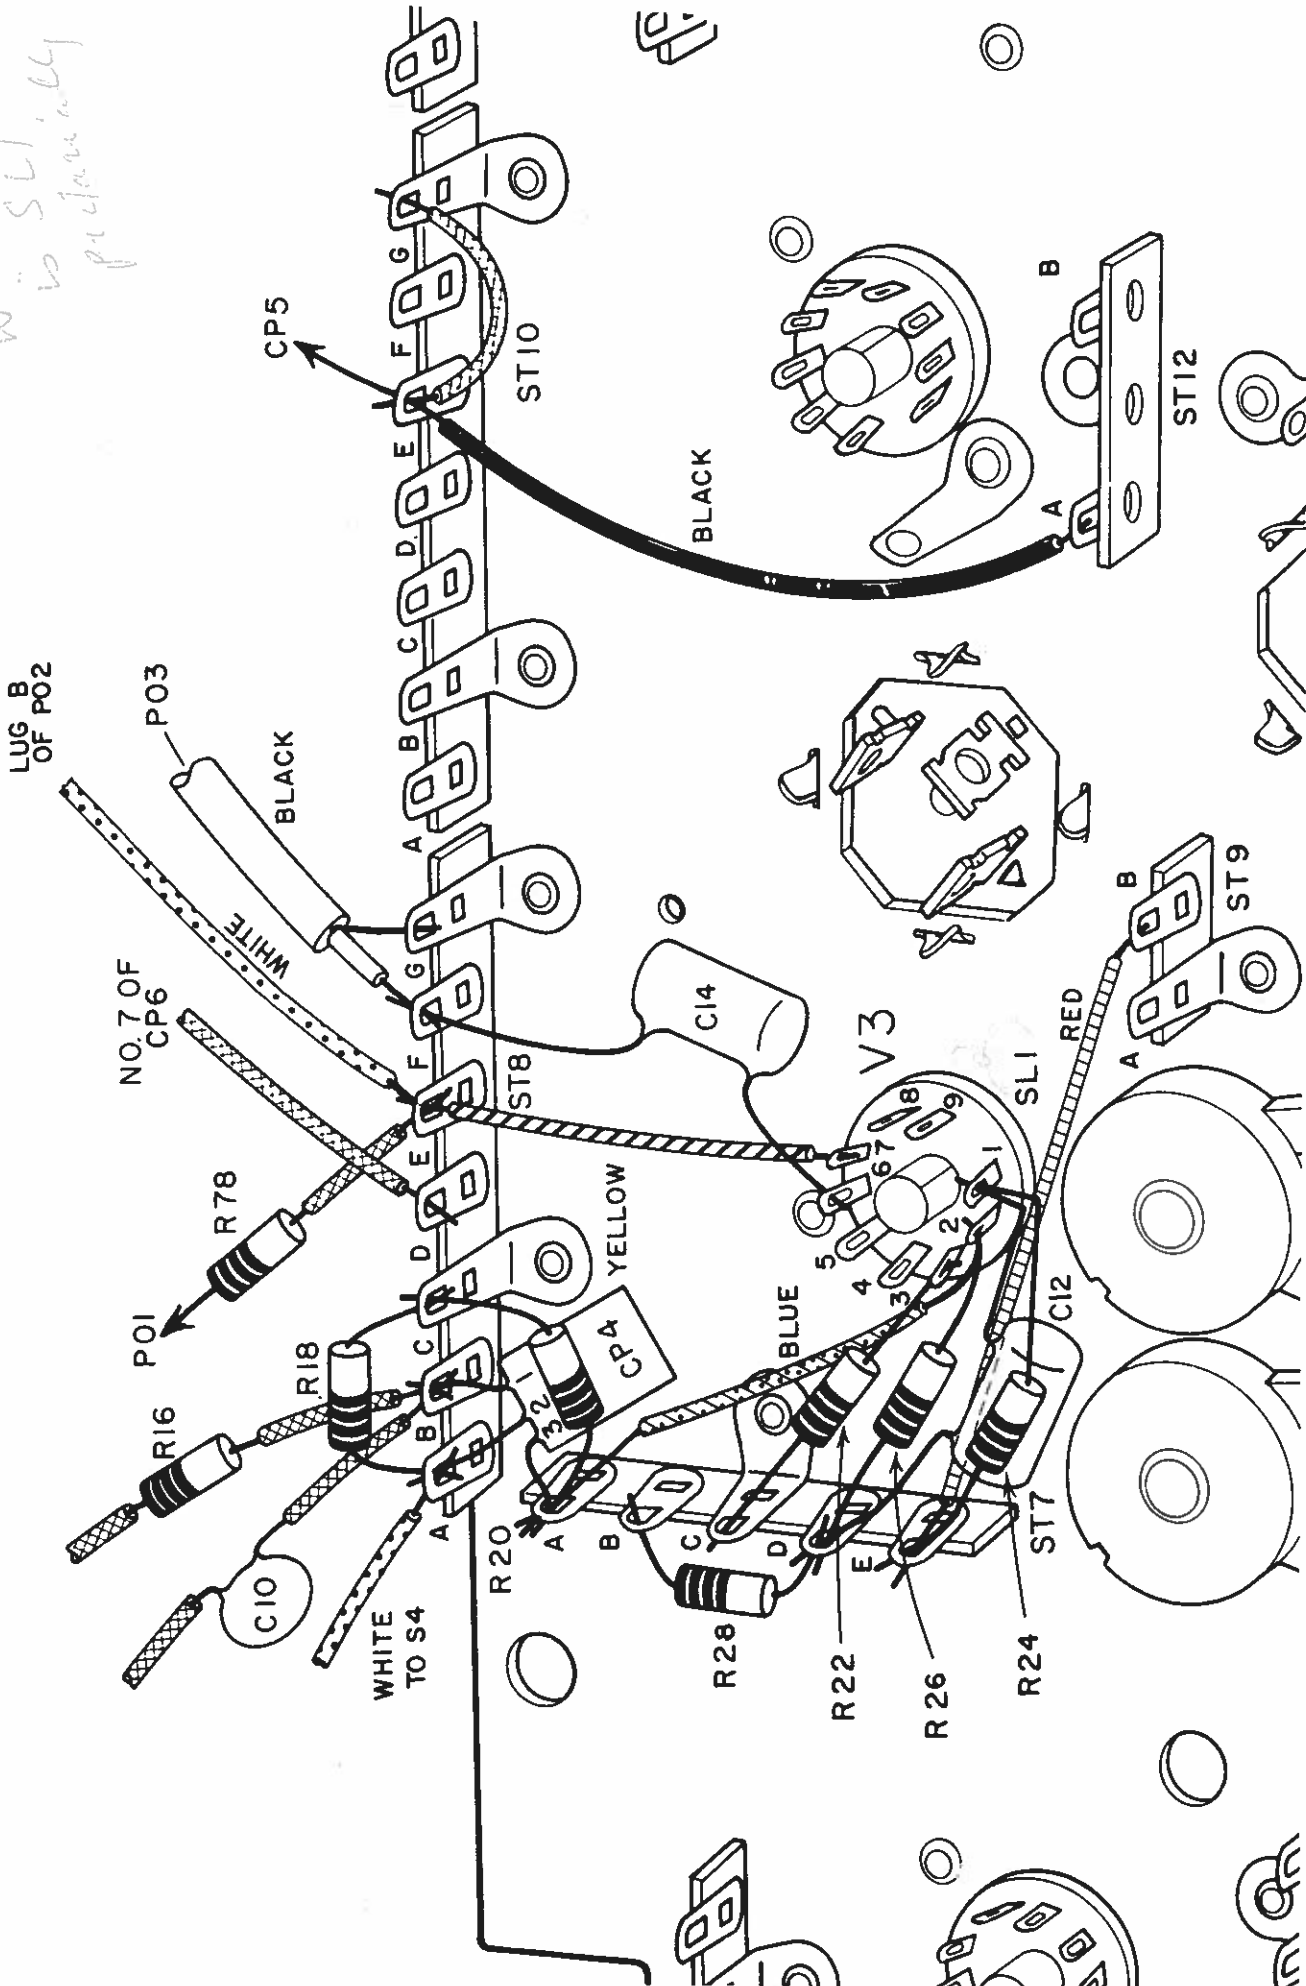

Figure 15-1
**Step 15N**  As shown in Fig. 15-1, connect CP4 with the No. 1 lead to B of strip ST8, the No. 2 lead to lug A of strip ST8, and the No. 3 lead to lug A of strip ST7. Solder lugs A and B of strip ST8.